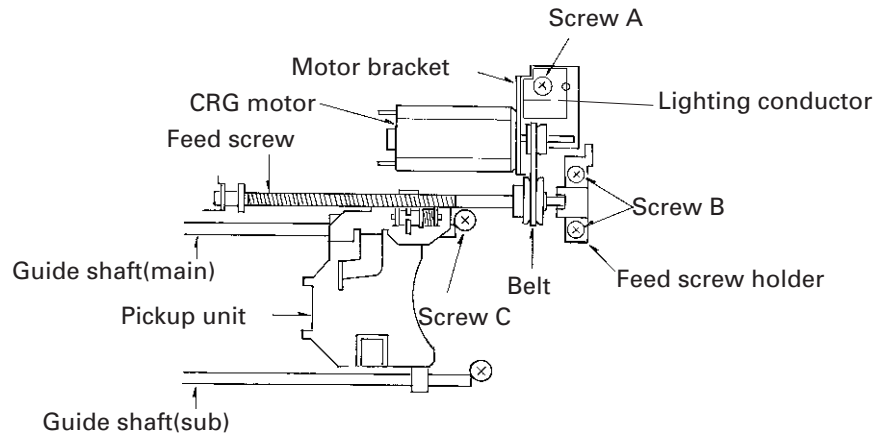

Fig. 23
6. Remove three screws A and then remove the carriage motor assy, remove the lighting conductor ,feed screw holder, feed screw and belt (see Fig. 23).
7. Remove screw C on the main side and the pickup unit together with the guide shaft (see Fig. 23).